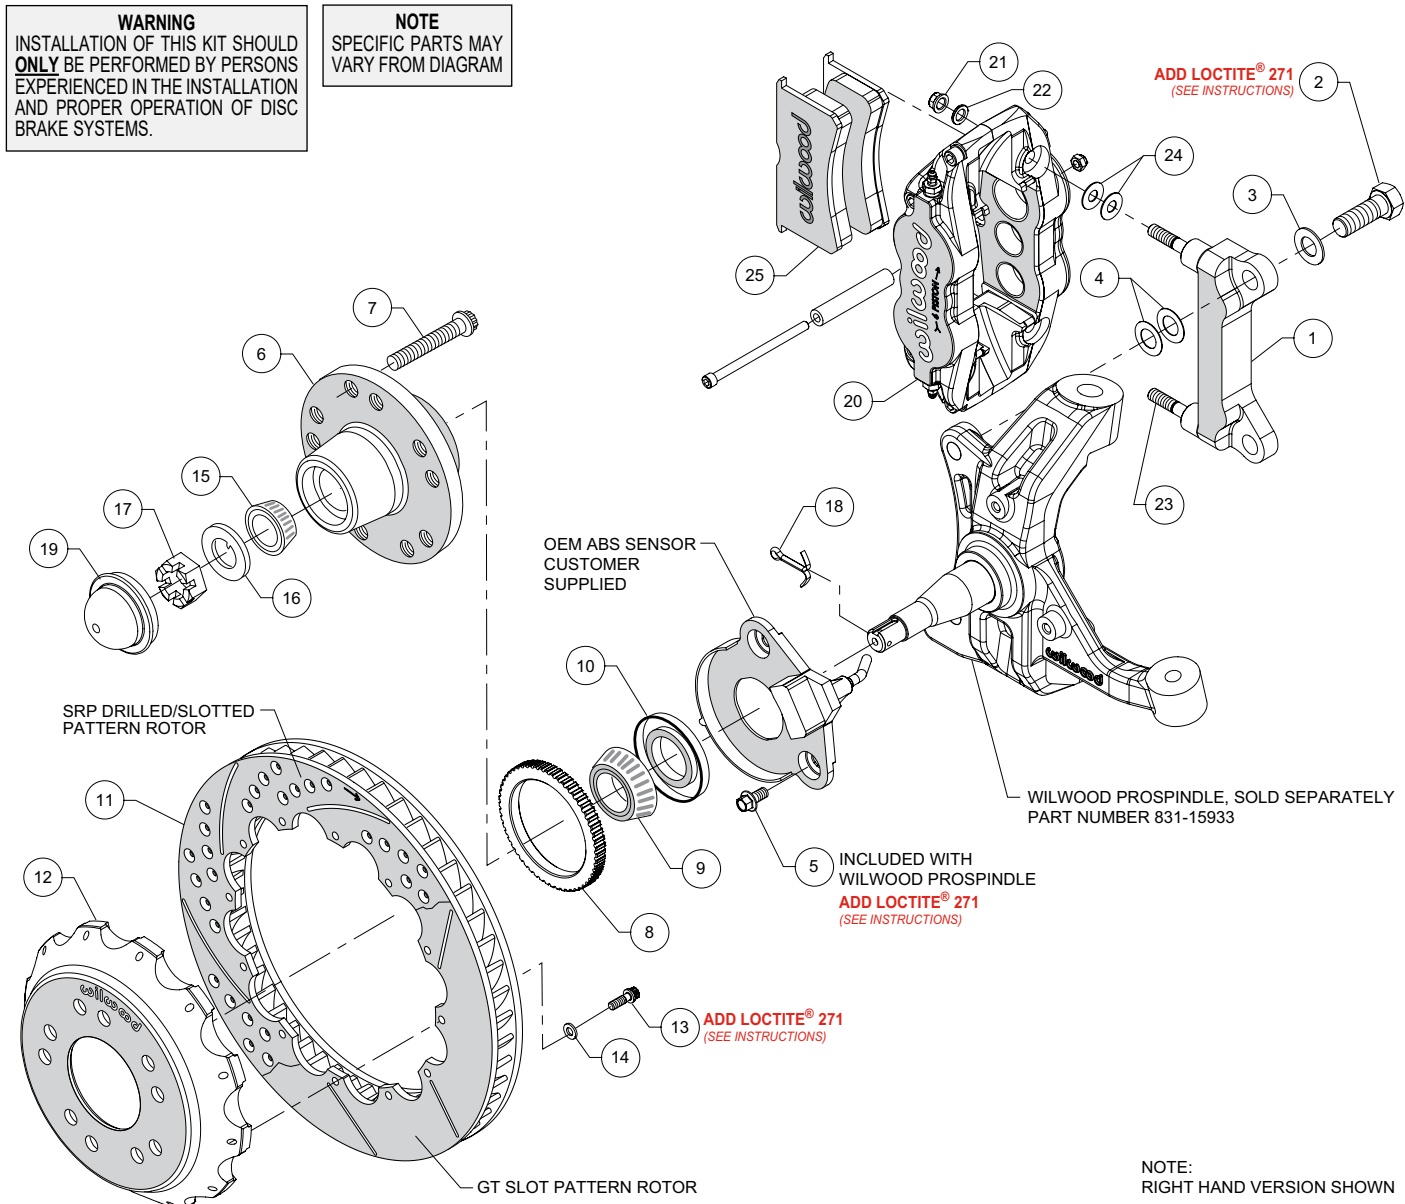
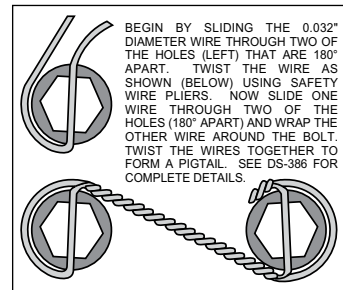

Figure 1. Typical Installation Configuration
Figure 3. Safety Wire Diagram
NOTE: Numbers in parenthesis refer to the parts list and Figure 1 on the preceding pages.
- For vehicles equipped with ABS, install the OEM ABS sensor (customer supplied) to the spindle using bolts (5) as shown in Figure 1 and Photo 3. Temporarily tighten the mounting bolts.
- The caliper mount bracket (1) should initially be installed with clean, dry threads on the mounting bolts. Orient the bracket, as shown in Figure 1 and Photo 4, and install using bolts (2) and washers (3). Initially place two .024" thick shims (4) on each bolt between the bracket and spindle, Figure 1. Temporarily tighten the mounting bolts. **NOTE: The bracket must fit squarely against the mount bosses on the spindle.** Inspect for interference from casting irregularities, machining ridges, burrs, etc. Later, after the caliper alignment has been checked, the mount bolts will be secured using red *Loctite*® 271.
- For vehicles equipped with ABS, carefully press the ABS ring (8) onto the backside of the hub (6) as shown in Figure 1 and Photo 6.
- Pack the large inner bearing cone (9) with high temperature disc brake bearing grease (available from your local auto parts store) and install into the backside of the hub (6), Photo 7.
- Install the grease seal (10) by pressing into the backside of the hub (6), flush with the end of the hub, Photo 7.
- Press the dust cap (19) into the hub (6). **NOTE:** Do not hammer center of cap. Install using outer flange only.
- Orient the rotor (11) and the hat (12) as shown in Figure 1 and Photo 9. Attach rotor to hat using bolts (13) and washers (14). Apply red *Loctite*® 271 to the bolt threads and torque to 155 in-lb using a criss-cross pattern. For an added measure of security, the bolts may be safety wired using standard 0.032 inch diameter stainless steel safety wire as shown in Figure 3. Refer to Wilwood's data sheet DS-386 (available at www.wilwood.com/Pdf/DataSheets/ds386.pdf) for complete safety wire installation instructions.
- Slide the hat/rotor (12 and 11) onto the hub (6), Photo 10. **NOTE:** The hat must fit flush against the hub face or excessive rotor run out may result. Install three lug nuts (finger tight) to keep the hat/rotor in place while continuing with the installation.
- NOTE:** This kit contains distinct right and left hand calipers that must be mounted in a specific direction, as described below. Initially place two .035" thick shims (24) on each stud between the caliper and the bracket, as shown in Figure 1 and Photo 11. Mount the caliper (20) onto the bracket (1) using lock nuts (21) and washers (22), Figure 1. Temporarily tighten the lock nuts. Ensure that the caliper is mounted so that the largest pistons are at the rotor exit end of the caliper, in relation to the direction of rotor rotation. View the rotor through the top opening of the caliper. The rotor should be centered in the caliper, Photo 12. If not, adjust by adding or subtracting shims (4) between the bracket and the spindle. Always use the same amount of shims on each of the two mounting bolts. Once the caliper alignment is correct, remove the bracket mounting bolts one at a time, apply red *Loctite*® 271 to the threads, and torque to 140 ft-lb.